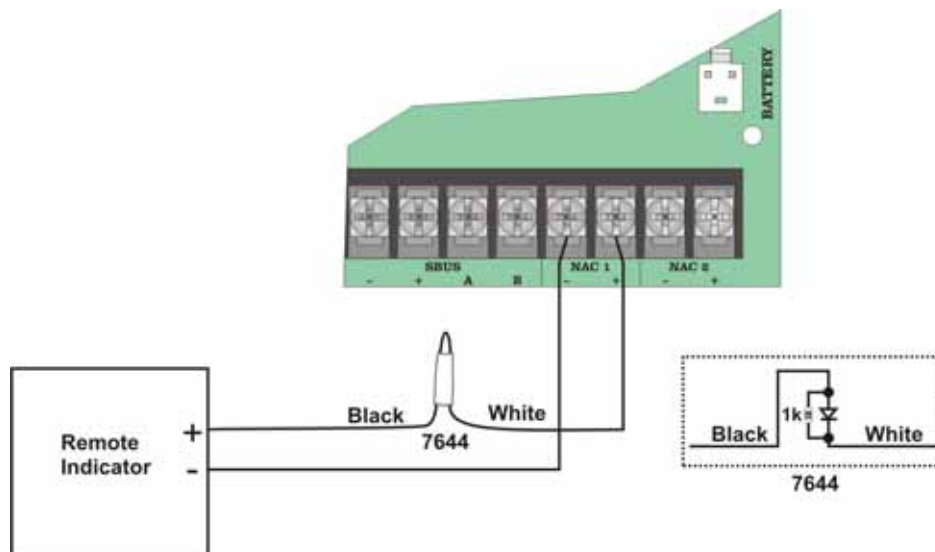

Figure 4-36 Polarity Reversal Connection Using the 7644
1. Wire the 7644 to the control panel as shown in Figure 4-36. Do not install an EOL resistor on the terminals of the NAC circuit used.